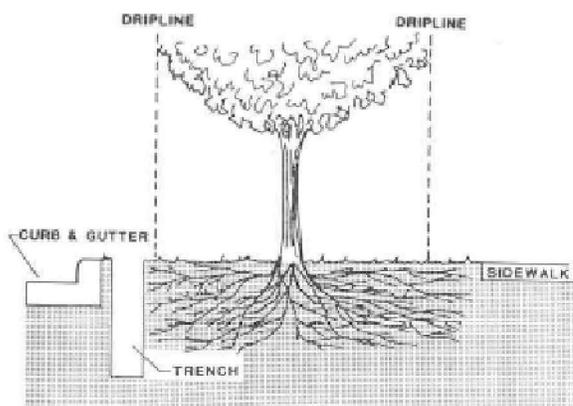
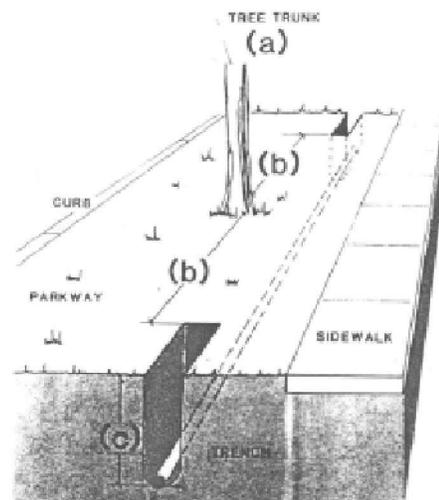

FIGURE 3 - SMALL TREES
FIGURE 4 - MEDIUM TO LARGE TREES
**Trenching and Tunneling** - Open trenching in the root zone of public trees is prohibited unless it falls outside the drip line of a tree's canopy (Figure 3). All trees where there is insufficient space to bypass the drip line by trenching must be tunneled. In no case shall the tunnel be less than two feet in depth. When the tunneling procedure is required, the distance of the tunnel from the face of the tree is determined by the diameter of the tree 6 inches above the ground line. Unless specified otherwise by the City Arborist, all dimensions apply as illustrated in Figure 4 with the quick reference table.